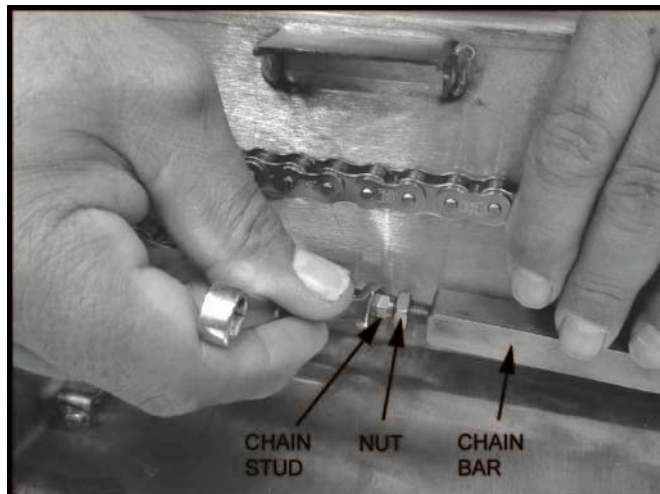

FIGURE 2-7: RELEASE TENSION ON CHAIN ASSEMBLY (LH SIDE SHOWN)
- e. Refer to **Figure 2-7**. Release tension on chain assembly by unscrewing nut then loosen chain stud from chain bar.